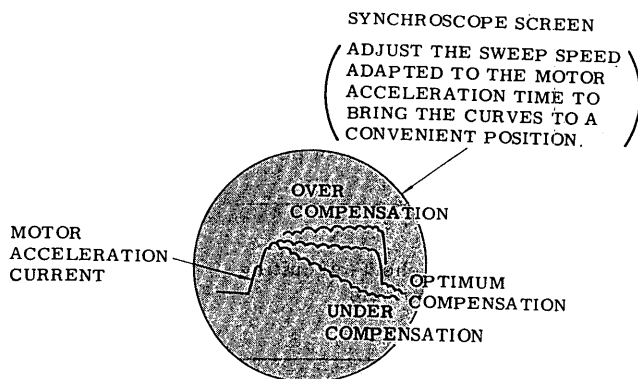

Fig. 14 Adjustment of CEMF C
- ii. Turn the CEMF C clockwise until the acceleration current comes to show a curve as shown in Fig. 14 on the synchroscope screen.